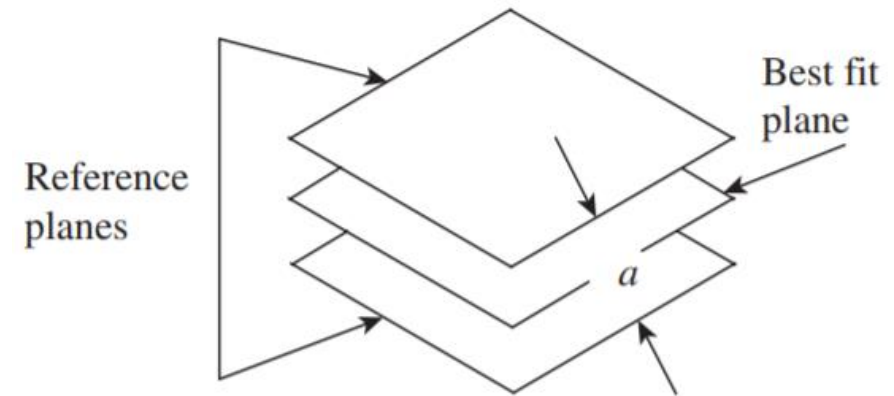

Figure 2: Measurement of flatness error
- ❑ Mark the boundary lines and generators on the surface plate (as shown in Figure 2).